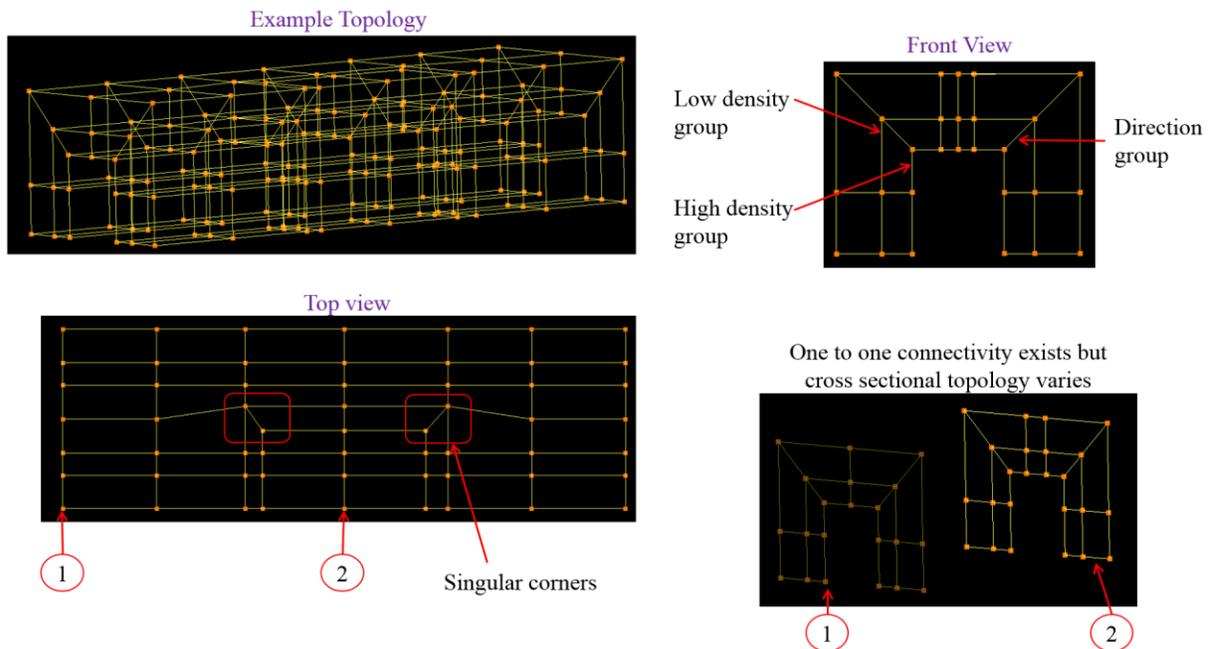

Figure 4.115: Topology structure of high and low density group
5. Topology structure of the high and low density group should be same at every cross sectional sheet as explained in figure 4.115.